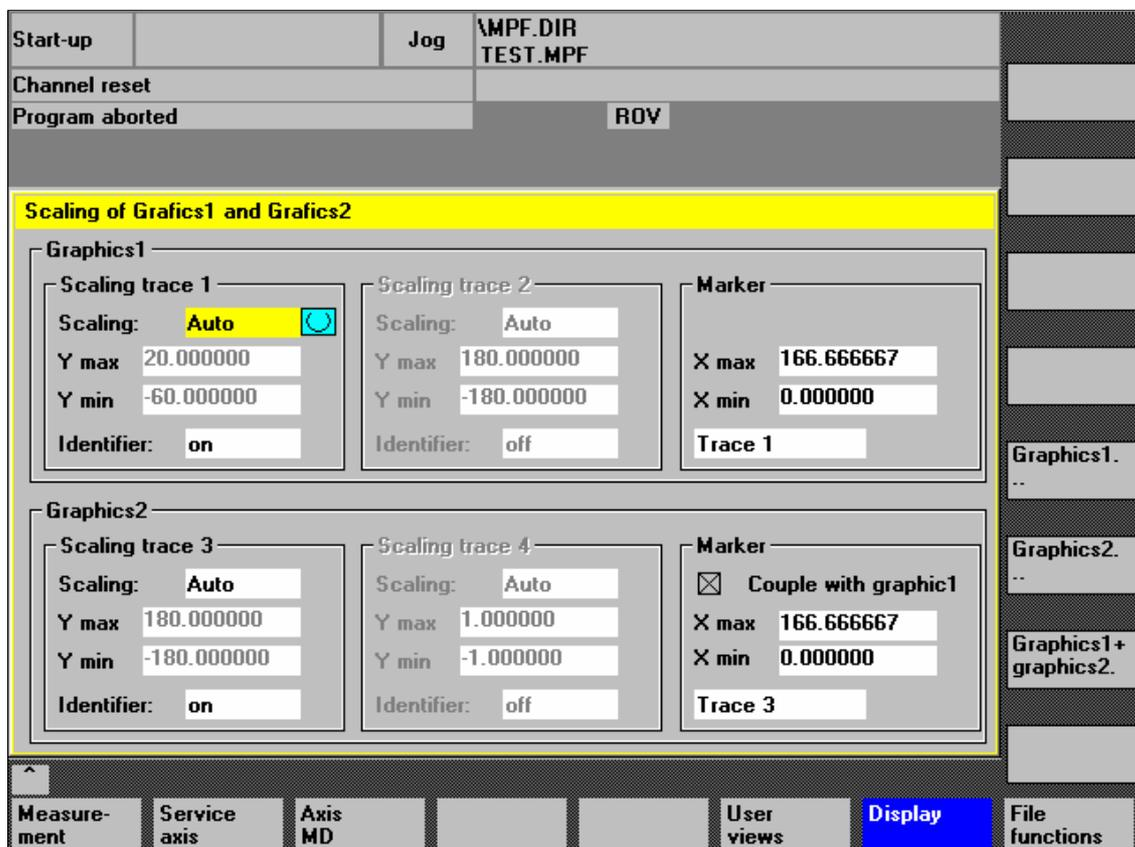

Fig. 13-7 Menu: Scaling of graphics
- Switching over the display from double to single graphics and vice versa (this function also exists in the scaling menu Fig. 13-7, Page 13-436)